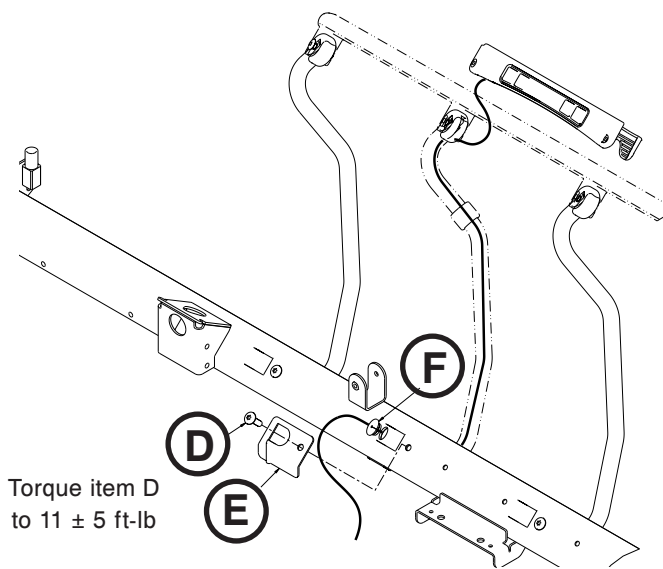

Figure 51
10. Using a T40 Torx driver, remove the truss head machine screw (D) that secures the cable cover (E) to the litter and set aside (Figure 51).
11. Remove the cable grommet (F) from the bottom of the siderail spindle (Figure 51).